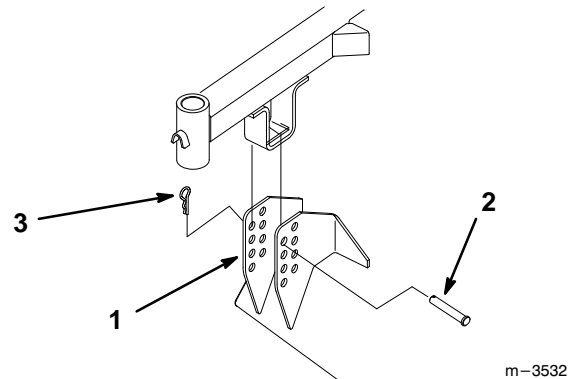

Figure 7
2. Remove hairpin cottes and clevis pins from mower hanger brackets and separate mower from carrier frame (Fig. 7).